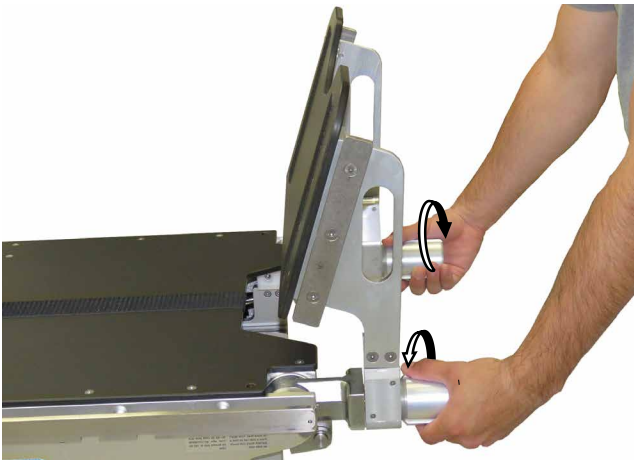
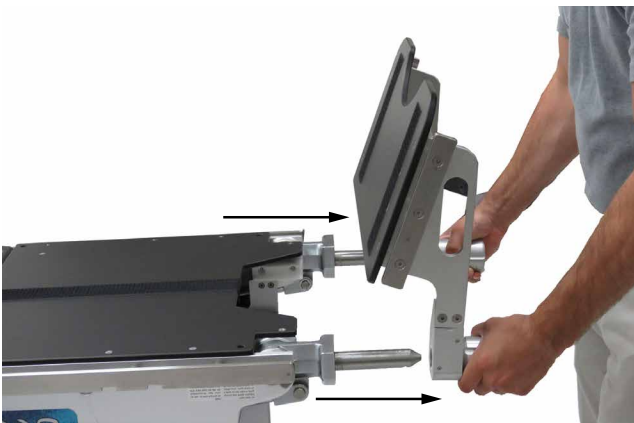

Figure 4. Twist release handles
Figure 5. Pull General Tilt Seat off
3. Fully twist both release handles outward from the center (Figure 4) and pull the General Tilt Seat off the leg axis pins (Figure 5).